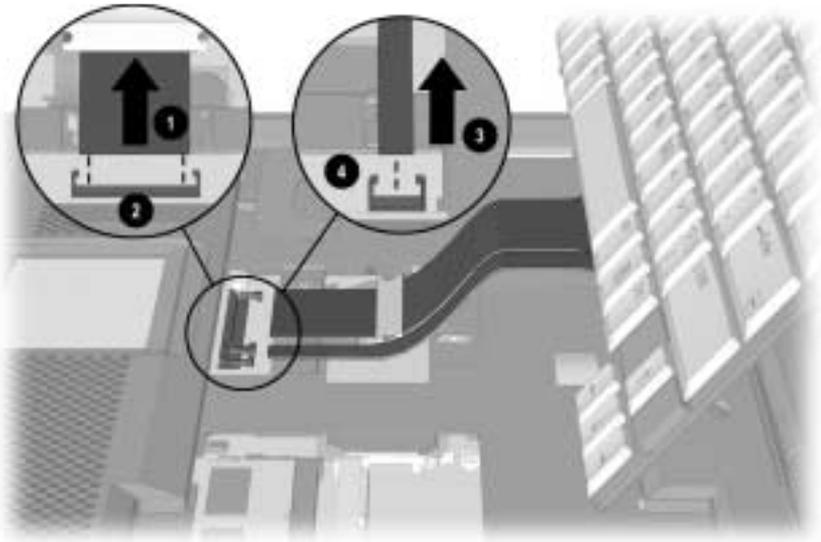

Figure 5-9. *Releasing and Disconnecting the Keyboard Cables*
8. Release the ZIF (Zero Insertion Force) connector that connects the keyboard cable ❶ (Figure 5-9).
9. Disconnect the keyboard cable from the system board ❷.
10. (**Armada E500 only**) Release the ZIF connector that connects the pointing stick cable ❸.
11. (**Armada E500 only**) Disconnect the pointing device cable from the system board ❹.